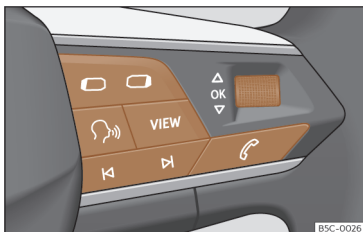

Fig. 11 Right side of multifunction steering wheel: buttons to the menus and informative indications on the instrument panel (depending on the version).
As long as a priority 1 >>> page 25 warning is active, it will not be possible to access any menu. Some warnings can be confirmed and hidden with the button **OK** of the multifunction steering wheel >>> **Fig. 11**.
- If a message or vehicle symbol is displayed, press the button **OK** >>> **Fig. 11**; several times if necessary.